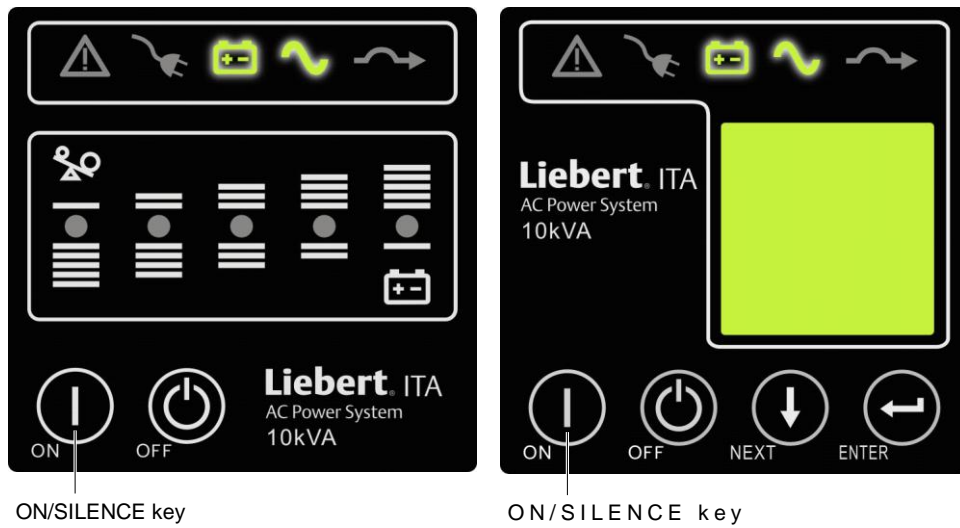

Figure 2-32 Indicator status
2. Press the ON/SILENCE key for more than one second, and wait for about 30 seconds, the UPS will enter the inverter standby mode automatically, at this time, the inverter indicator blinks. After the UPS has output, the inverter indicator will turn on, as shown in Figure 2-32.